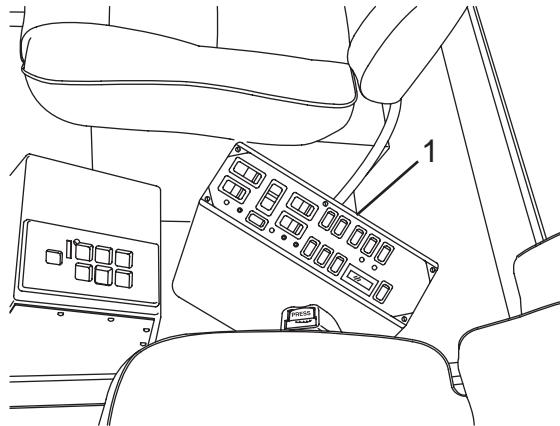

Figure 29
**Cab Control Box Version:** The receiver is located in the control box (cab control box) (Figure 29, Item 1).